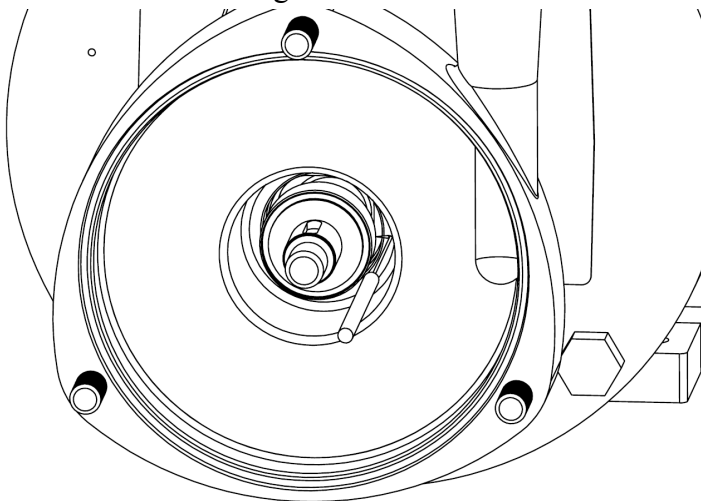

Figure 4
6. Pull out the seal driver. You may have to use a pick to separate the rotating seal from the stationary seal, figure 4.